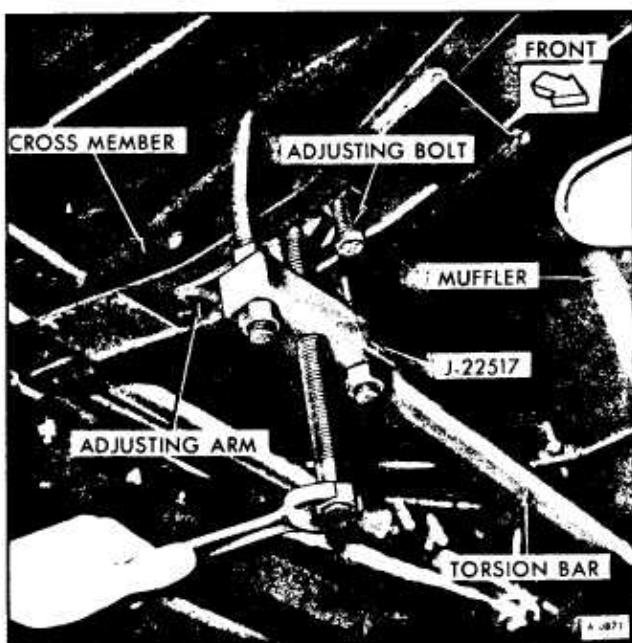

Figure 16-Removing Torsion Bar
2. Before using Tool J-22517, remove two nuts and center screw, then place tool over crossmember support. Align pin of tool into hole in crossmember. Install two nuts on tool and center screw. Turn center screw until seated in dimple of torsion adjusting arm. (figure 16)